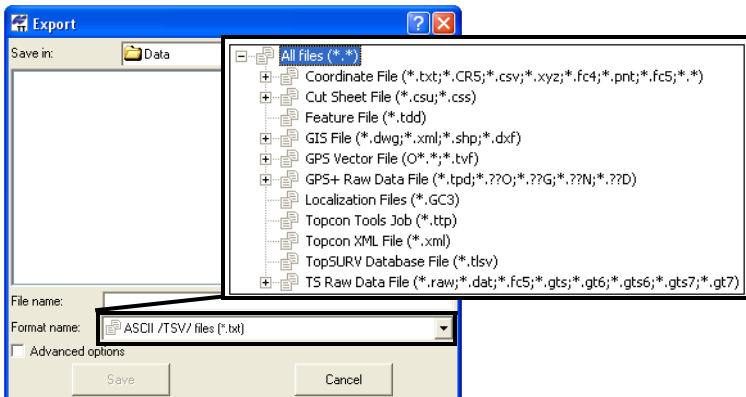

Figure 8-1. Select Export Format
3. Select the *Format name* (Figure 8-1).